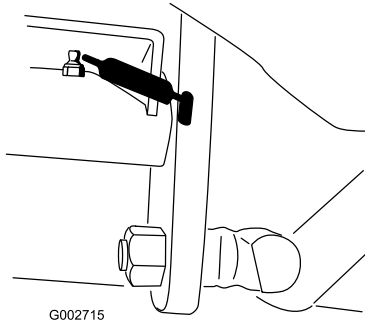

Figure 21
- Traction-pedal pivot (1) (Figure 21)